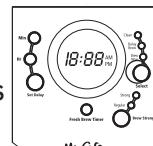

Figure 6
1. After completing the steps in the **Adding Water and Coffee** section and with the glass decanter and the filter basket securely in place, turn the coffeemaker on by pressing the SELECT button once. The BREW NOW green light will turn on to signal that the coffeemaker is on and brewing (Figure 6).